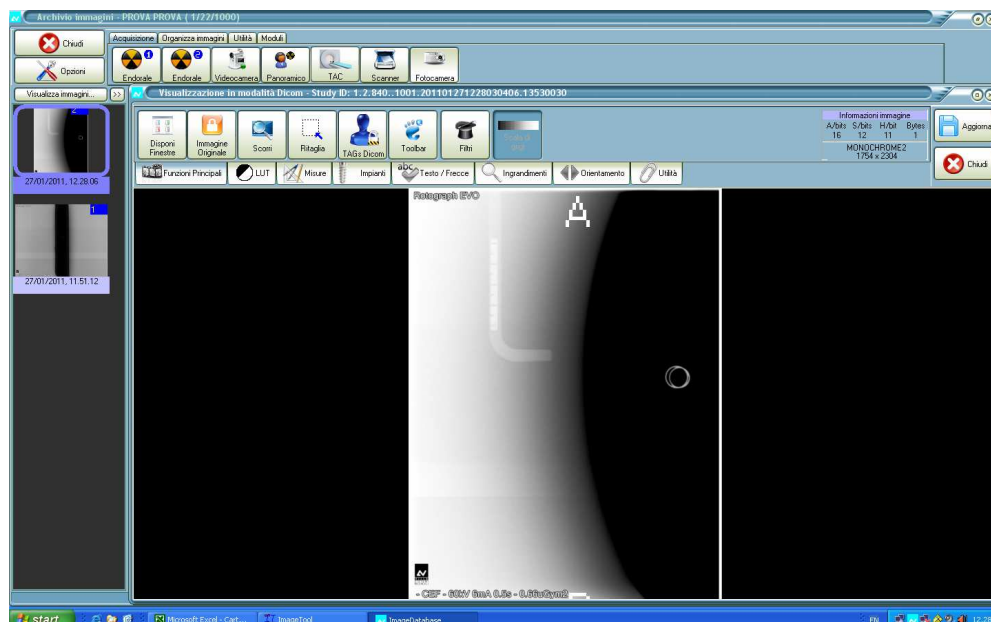

Figure 9-30
- On the image, measure the distance "A" (Figure 9-30) between the Soft Tissue Filter (STF) edge and the center of the rings; perform the measure in "mm".